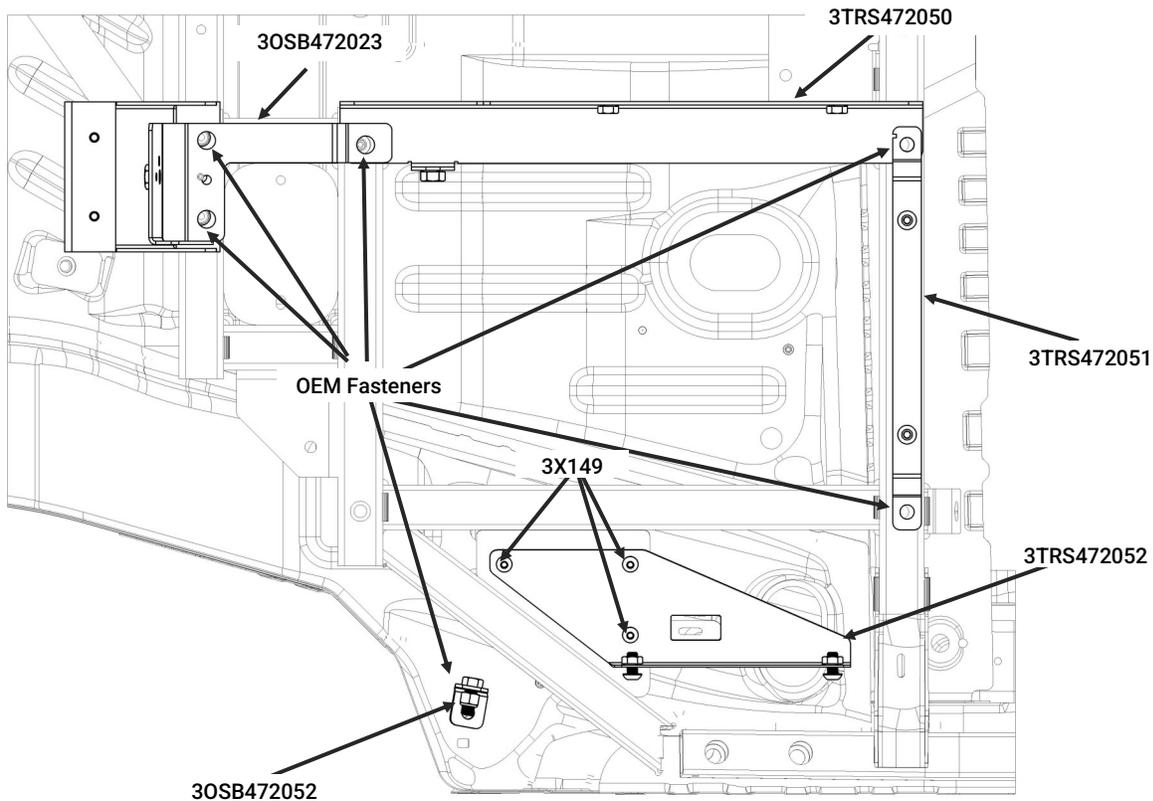

Figure 10
6. Place the Outer Seat Bracket back into position on the OEM gusset and slide the Outer Seat Bracket Nut Plate [3TRS472053] under the gusset. Securely fasten the bracket using (3) [3X149] 5/16-18X3/4" button head screws and a 3/16" hex wrench.
9. Place the OSB Buckle [30SB000002 or 30SB109RP for retractor belts] against the outboard face of the Outboard Seatbelt Tab. Secure the buckle in place using a 5/8" wrench and socket and (1) [3X616] 7/16-20X1" grade 8 hex bolt and (1) [3X614] 7/16-20 grade 8 hex nut.
10. Figure 10 shows the locations of the seat brackets, 30SB472023 only used with retractable seat belts.